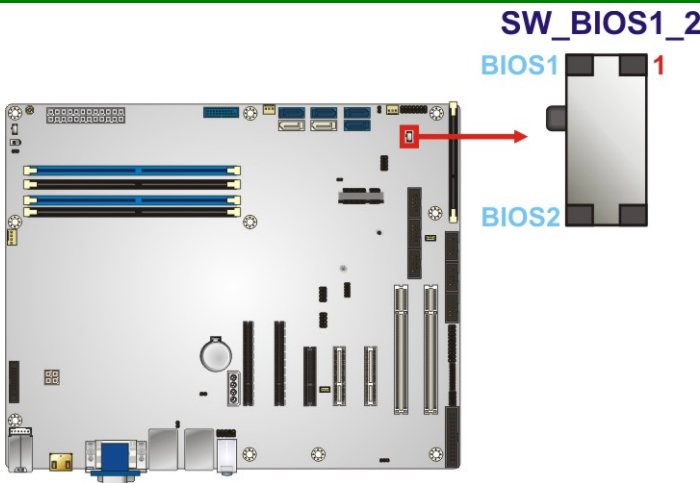

Figure 4-18: BIOS1/BIOS2 Switch Location
The IMBA-C2360-i2 equips with dual BIOS to support flexible I/O configuration. To switch BIOS1 to BIOS2 or BIOS2 to BIOS1 successfully, please follow the steps below and refer to **Figure 4-18** and **Table 4-2** for the BIOS switch location and settings.
- Step 2: Switch BIOS1 to BIOS2 or BIOS2 to BIOS1 by moving the BIOS switch to BIOS1 or BIOS2 position as shown in **Figure 4-18**.